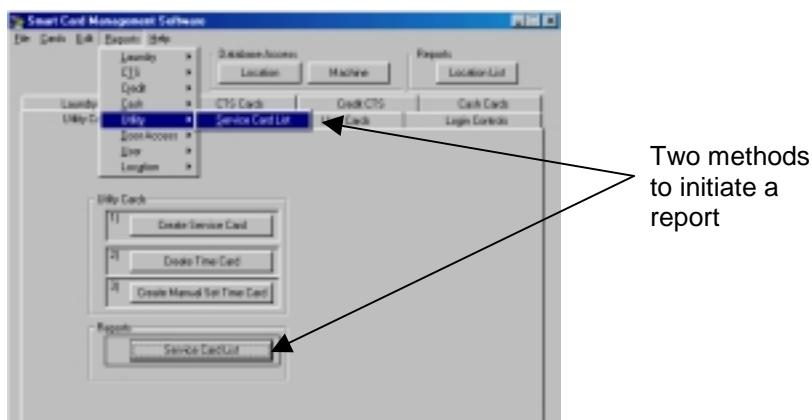

Figure 13.10 Opening the Service Card Report
1. To open the report do one of the following (Figure 13.10):